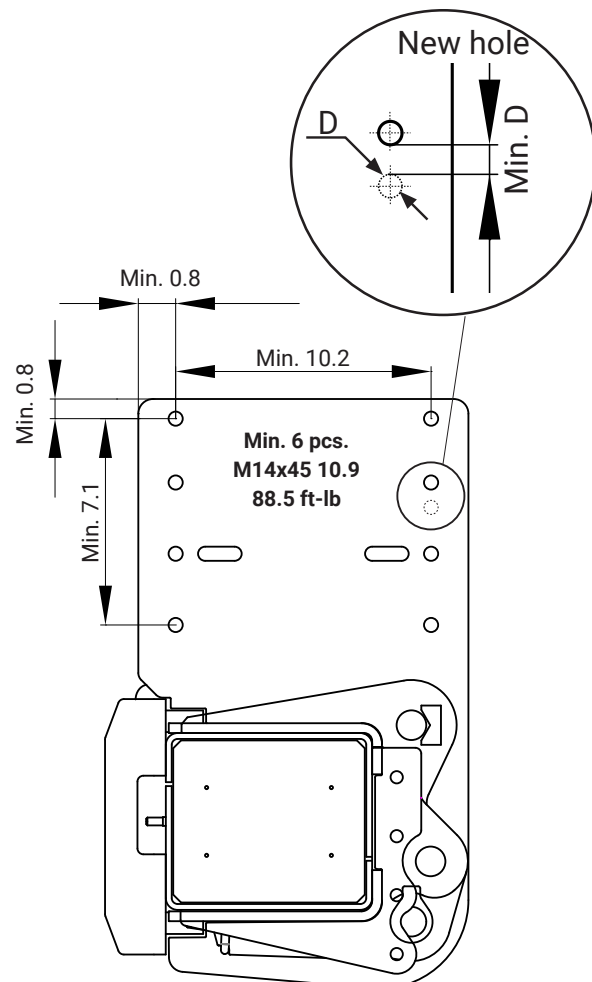

Figure 24. Install the chassis bracket with at least six M14x45 10.9 bolts
9. First install using a screw in the grooved bracket holes. Mark the centre of the vehicle frame in the grooved bracket holes, then drill Ø14 mm holes in the frame; see Figure 24.